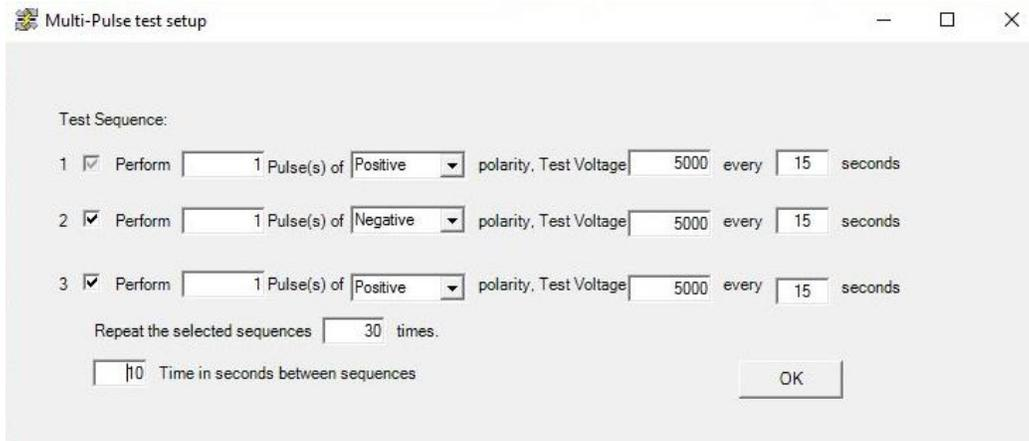

Figure 34 Multipulse setup screen
2. The setup screen is displayed (Figure 34). This screen allows the user to define up to three test sequences within the following parameters: